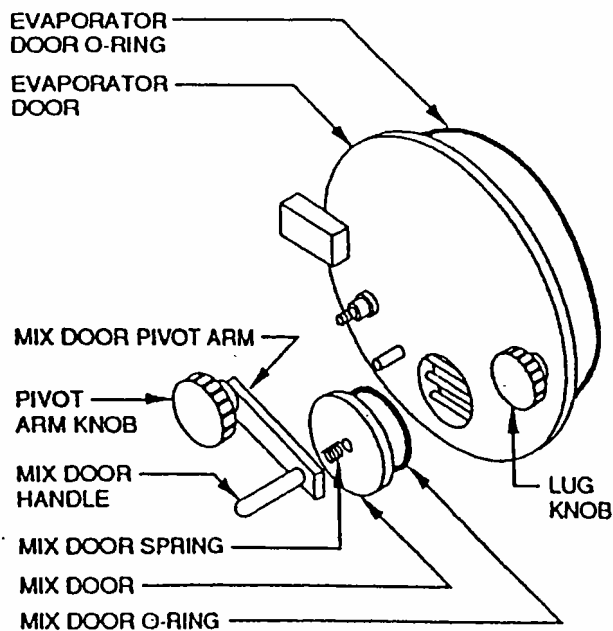

Fig. 2-A
1. Loosen the knob (Fig. 2) on the face plate and remove the door.